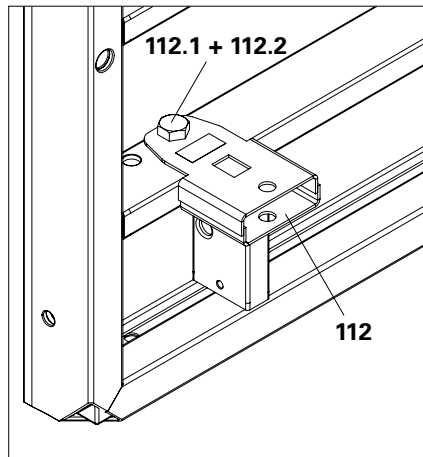

Fig. C4.03a
2. Fix 2x Clamp Adapter MX/TR - SRU (112) to the formwork using bolts ISO 4014 M24 x 80-8.8 (112.1) and nuts ISO 4032 M24-8 (112.2). (Fig. C4.03a)
3. Place the Formwork Waler 150 CB (110) with U-profile pointing upwards on the Clamp Adapter MX/TR-SRU (112).